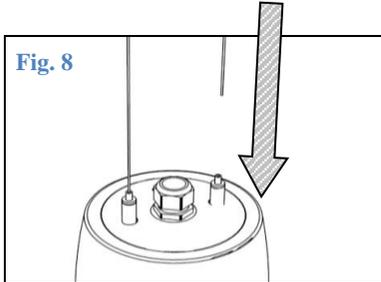

Fig. 8
9. Push the ends of the suspension wires into the clutch mechanisms mounted in the top of the suspended body and set the height of the fitting as required. (fig.8)